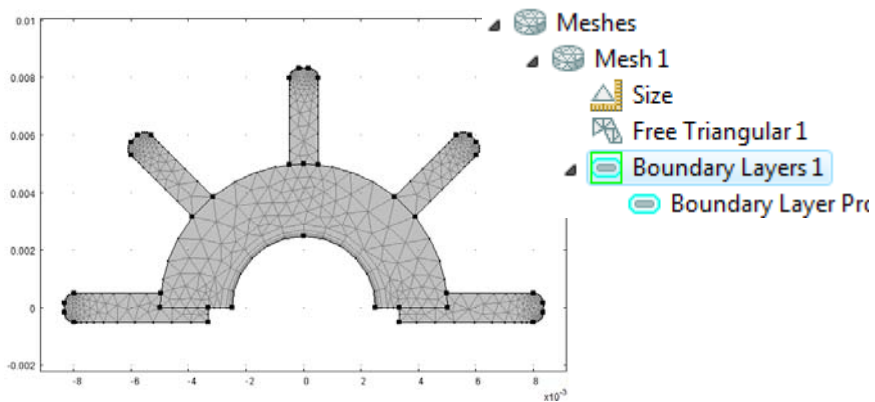

Figure 18-6: Adding a boundary layer elements.
- 2 Under the **Boundary Layers** node a **Boundary Layer Properties** node appears where you can select the boundaries where boundary layers should be applied. See Figure 18-6.